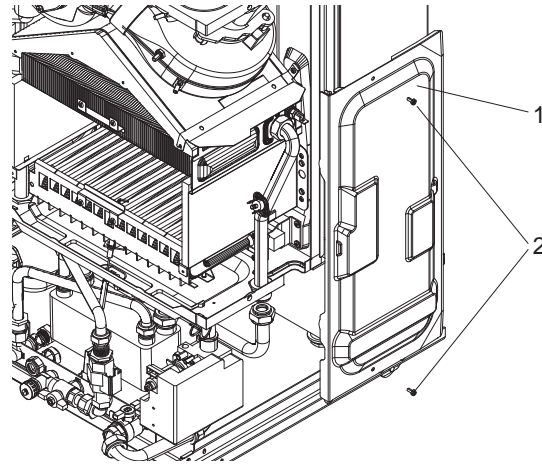

Fig. 28b
**8.7.6** Locate and remove the 2 screws (2) securing the air chamber right side panel (1), pull the panel towards you before lifting and disengaging (see fig. 28b).